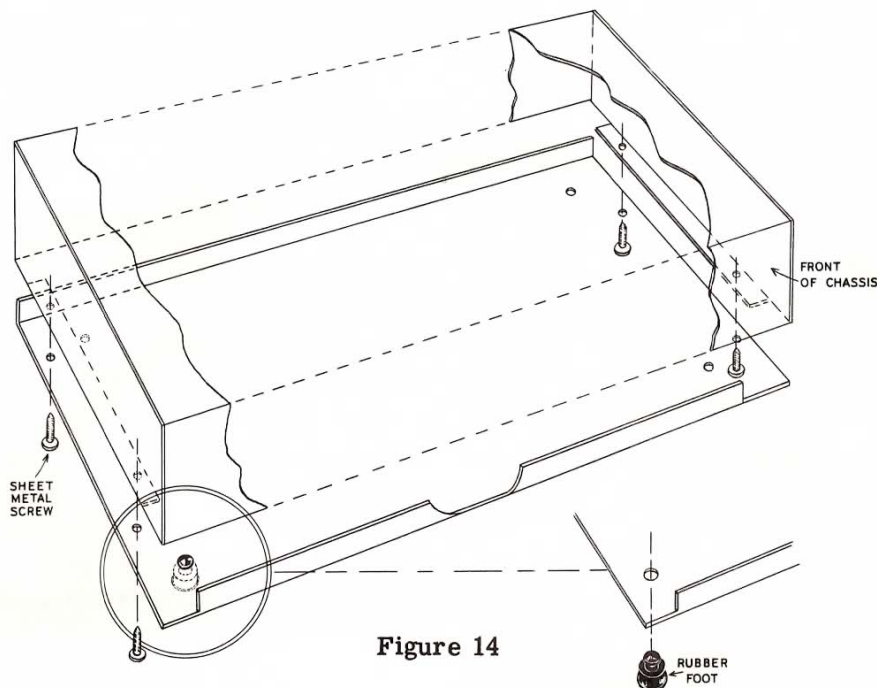

Figure 14
- (✓) Prepare the bottom cover by installing the four rubber feet in the holes provided. The feet should be pushed in with a rotary motion. See Figure 14.
- (✓) Install the bottom cover on the open side of the chassis, using four #6 sheet metal screws. Refer to Figure 14 and note that the edge with the notches goes toward the front of the chassis.